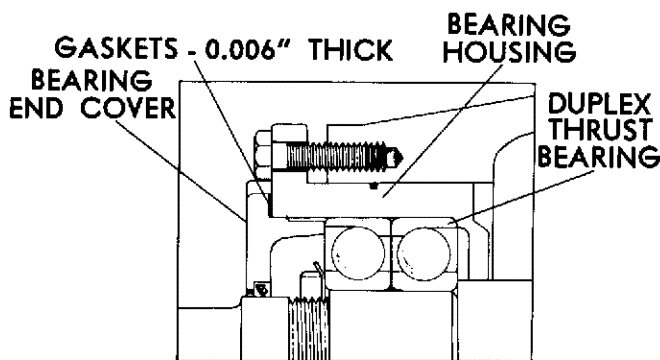

Figure 15A
0.001" and not more than 0.008". If end play is less than 0.001" add coupling end bearing end cover gaskets made from 0.006" thick manila paper. If end play is greater than 0.008" remove gaskets. Because of machining tolerances, duplex thrust bearings may vary in width by up to 0.030". A correctly assembled pump may require as few as one, or as many as three 0.006" thick gaskets. Refer to Figure 15A.